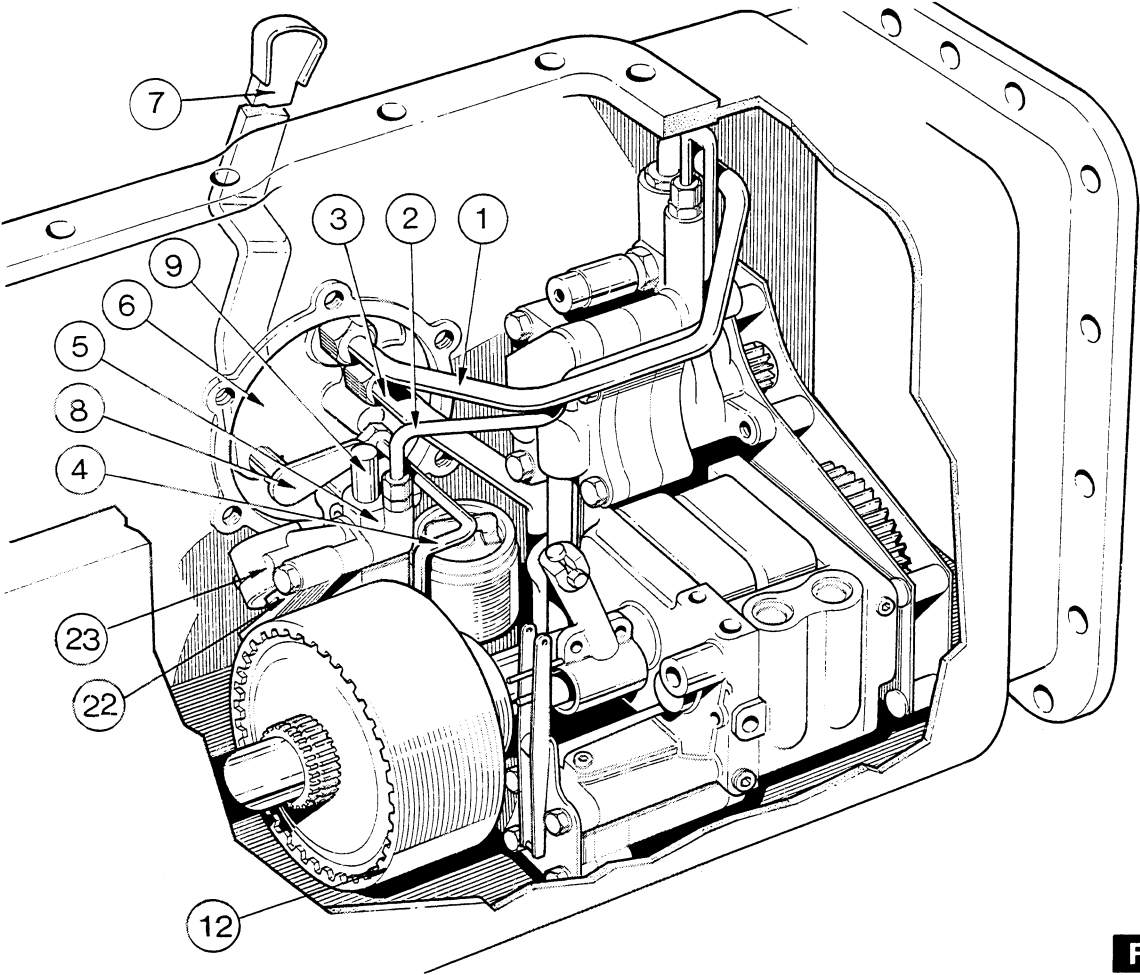

FIG. 12
6. Fig.12. Remove the pipe (1) (auxiliary hydraulic tractors only) by removing the snap ring securing the pipe to the side cover (6) and releasing the pipe at the auxiliary pump.
7. Remove the pipe (2) from the auxiliary pump and the i.p.t.o. spool valve (5).
8. Remove the return pipe (3) (auxiliary hydraulic tractors only) by removing the snap ring securing the pipe to the side cover.
9. Disconnect the pressure test pipe (4) at the spool valve (5).
11. Manoeuvre the side cover, complete with the lever (7), selector (8) and pipe (4) out of the centre housing.
5. Fig.12. Remove the two snap rings securing the two pipes (1 and 3) (auxiliary hydraulic tractors only) to the side cover and lift out the return pipe (3).
6. Disconnect the pressure test pipe (4) at the spool valve (5).
8. Manoeuvre the side cover, complete with the lever (7), selector (8) and pipe (4) out of the centre housing.